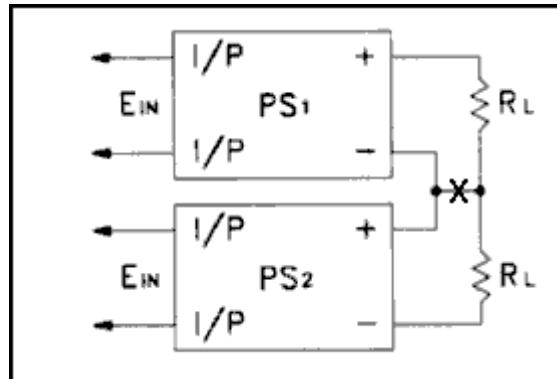

Fig. 15
**a.** Fig. 15 describes a sample setup for separate distinctive loads. Protective diodes (D1 and D2 below) may be necessary with this type of application to protect the power supplies if connection X is lost.